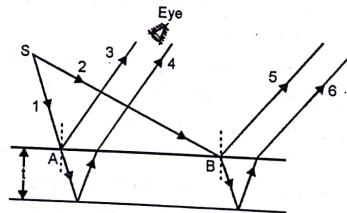

Fig. 1.6.1
- Consider a thin film and a narrow source of light S as shown in Fig. 1.6.1. The ray 1 produces interference fringes because rays 3 and 4 reach the eye. The ray 2 is incident on the film at some different angle and is reflected along 5 and 6. The rays 5 and 6 do not reach the eye.